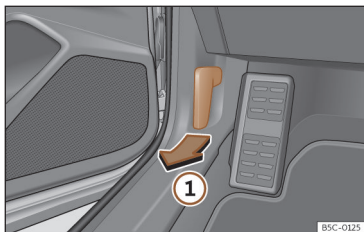

Fig. 205 Release lever in the driver's footwell area.
- Open the door and pull the lever under the dashboard»» **Fig. 205** ①.